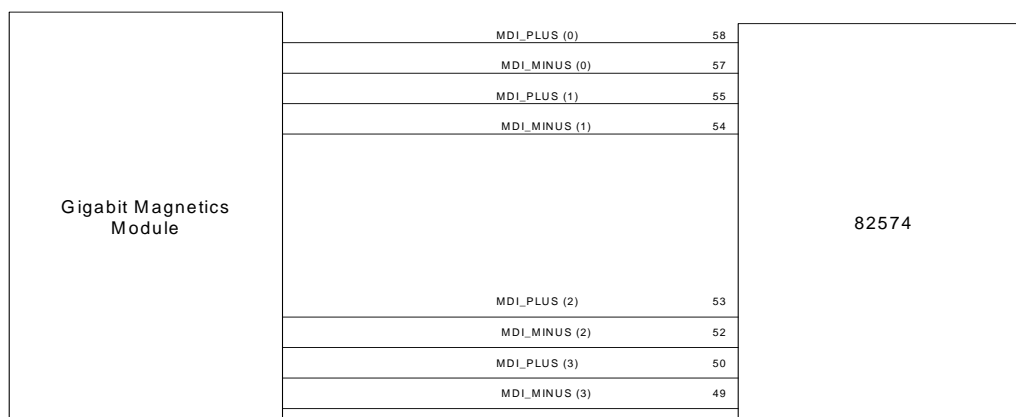
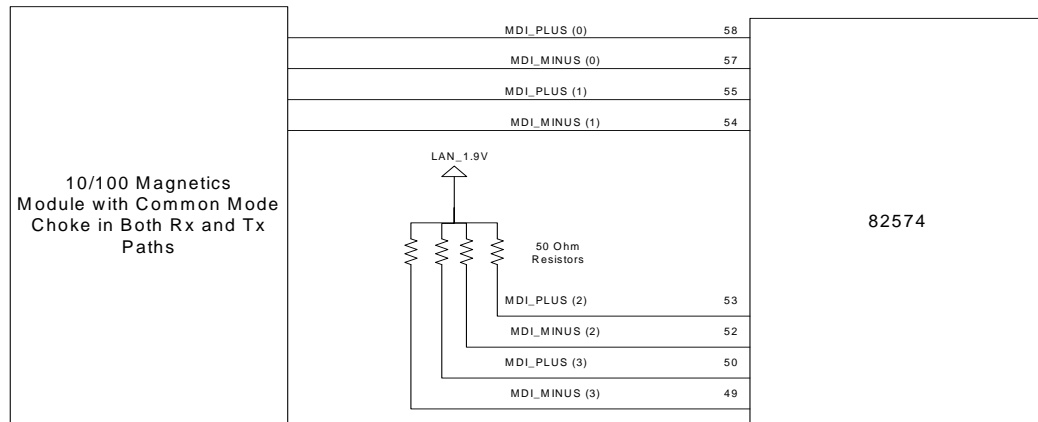

Figure 72. 82574L Gigabit Magnetics Module Connections
Figure 73. 82574L 10/100 Mb/s Magnetics Module Connections (With CMC)
2. Connect MDI pair 0 (pins 57 and 58) and MDI pair 1 (pins 54 and 55) to your magnetics. MDI pair 2 (pins 52 and 53) and MDI pair 3 (pins 49 and 50) can each be pulled up to 1.9 V dc through a 50 Ω resistor or connected to the magnetics as a gigabit device if it is desired at a later time to enable gigabit by altering bit 14 of the LED 1 Configuration Defaults/PHY Configuration; word 0x1C (Giga Disable). See Figure 72 and Figure 73 for details.